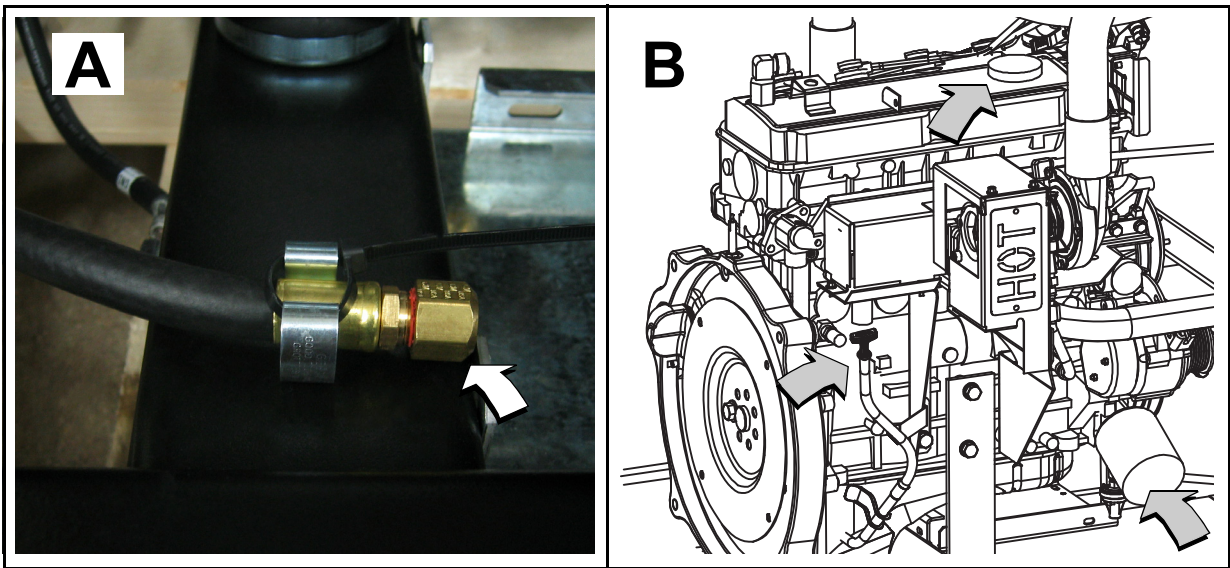

Figure 5-8. Oil Drain Hose, Fill Cap, Dipstick and Filter
1. Remove oil drain hose from holding clamp. See A of Figure 5-8
- Rotate oil filter counterclockwise to remove from oil filter adapter. See B of Figure 5-8